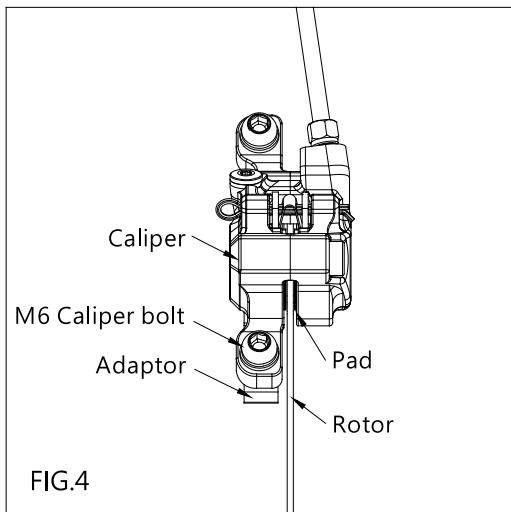
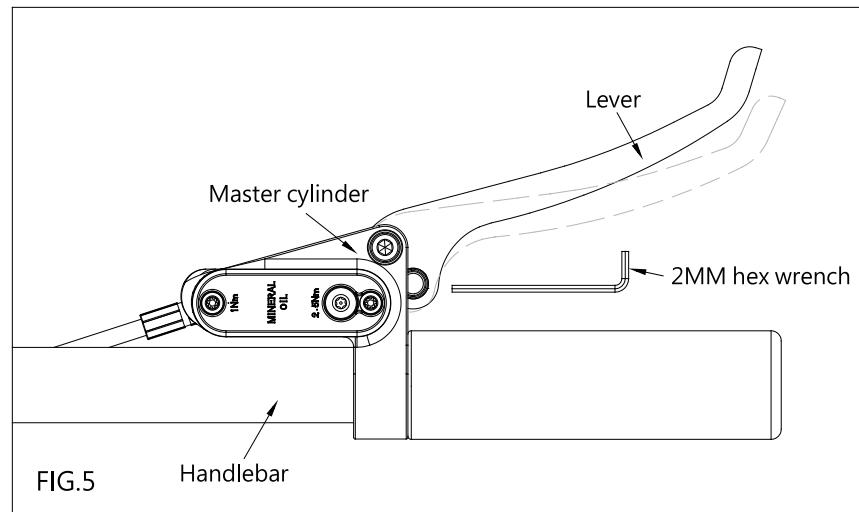

FIG.4
FIG.5
- 1) Gently pump the lever several times, and then hold steady, which makes the caliper clamp the disc and adjusts to the middle position of the disc (FIG.4), tighten M6 caliper fixing bolts at a torque of 8~10 Nm (71~89 in. lbs.).
- 2) Check for any noise or abnormal friction by turning the wheel. If detected, loosen M6 caliper fixing bolts, repeat Step 1), and adjust the caliper position until it turns freely without friction noise. (FIG.4) Adjust the holding space between the lever to fit your personal choice by using a 2mm hex wrench. (FIG.5)